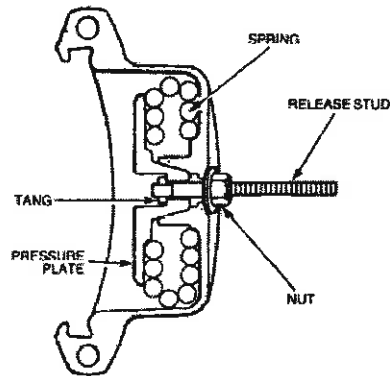

Figure 32 Spring Brake Release Stud
- d. Rotate the stud one-quarter of a turn to engage the tangs of the release stud into the slot in the pressure plate (Figure 32).